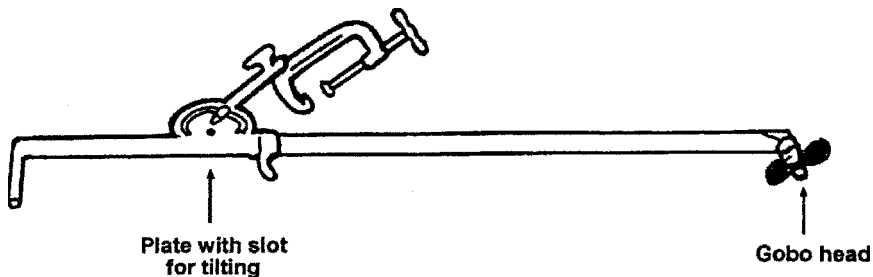

Figure 2.43 Meat ax.
1. The meat ax is a grip-arm-like accessory (Figure 2.43).